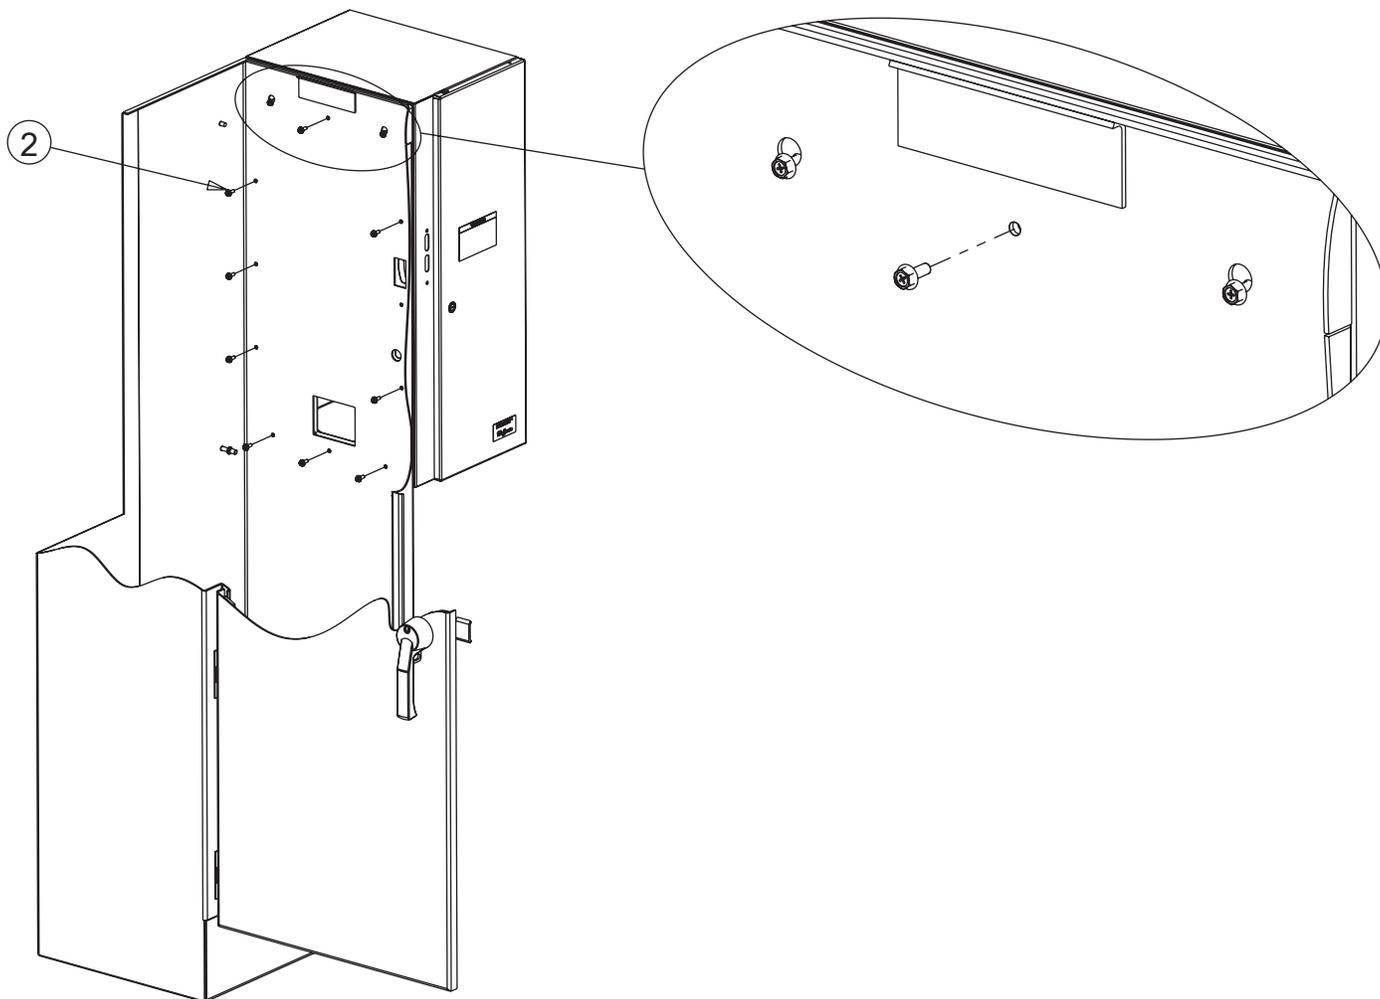

Figure 1B
- Referring to Figure 1B, hang the SEQUESTR enclosure on the side of the control enclosure by inserting the two bolts into the slotted holes in the side of the control enclosure.